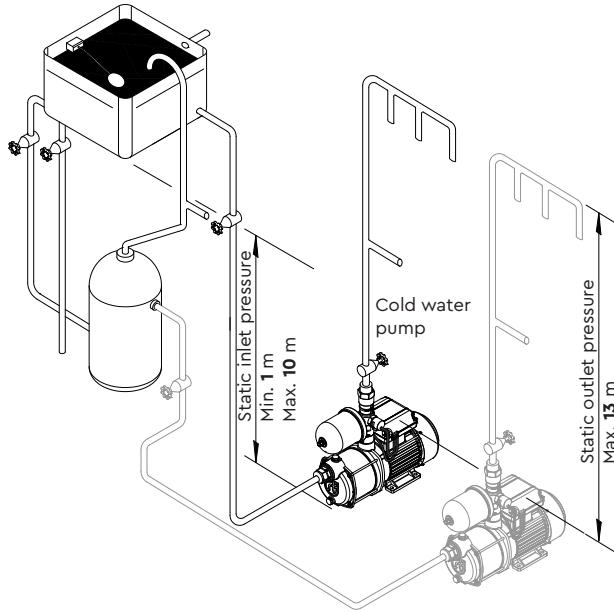

Fig. 4
- 2.16 **Static inlet pressure:** Before deciding where to locate the unit check to ensure the static inlet head between pump and the bottom of the cold water tank (Figs. 4 & 5) is at least 1 metre and does not exceed the max inlet head of 10 metres.
- 2.19 **Static outlet pressure:** The static outlet head (Figs. 4 & 5) must also be within the maximum requirement of 13 metres.